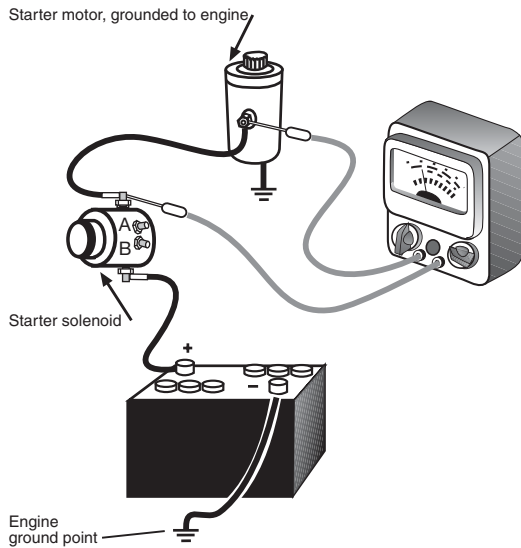

Figure 6-11. Starter circuit voltage-drop test—Step 3.
**Step 3.** If all's well so far, the next step is to check for a voltage drop between the solenoid and the starter motor. Connect the voltmeter as shown in Figure 6-11. Crank the engine and watch your voltmeter. The reading should not exceed 0.2 volt.